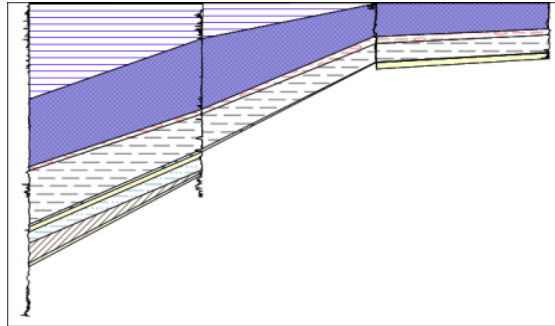

Figure 1.207 – The cross-section with filled layers
11. Click *Yes* in the warning dialog and the layers are filled with the colors, as determined by the scheme, fig. 1.207.